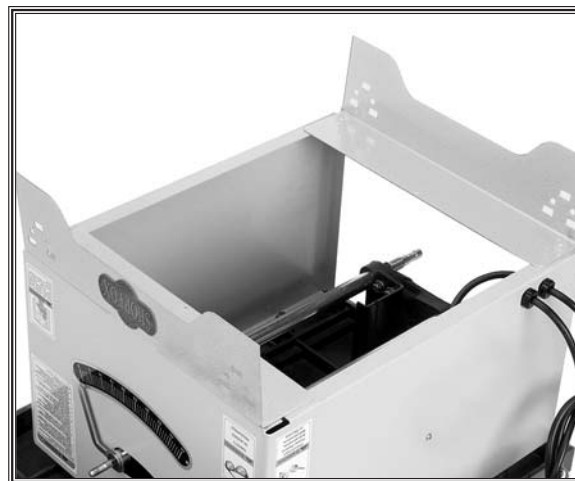

Figure 8. Attaching the top brackets.
2. Secure the top mounting brackets to the underside of the table saw with four 5/16"-18 x 1" hex bolts, eight 5/16" flat washers, four 5/16" lock washers, and four 5/16" hex nuts as shown in **Figure 8**.